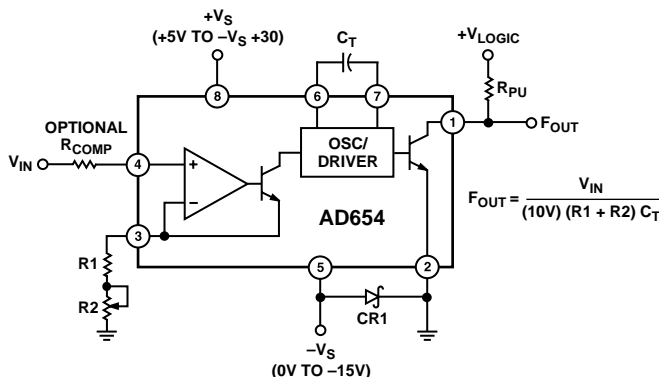
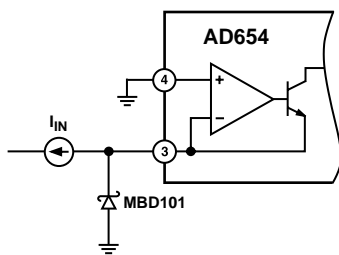

Figure 1. Standard V-F Connection for Positive Input Voltages
Figure 5. Input Protection
The AD654's block diagram appears in Figure 1. A versatile operational amplifier serves as the input stage; its purpose is to convert and scale the input voltage signal to a drive current in the NPN follower. Optimum performance is achieved when, at the full-scale input voltage, a 1 mA drive current is delivered to the current-to-frequency converter (an astable multivibrator). The drive current provides both the bias levels and the charging current to the externally connected timing capacitor. This "adaptive" bias scheme allows the oscillator to provide low nonlinearity over the entire current input range of 100 nA to 2 mA. The square wave oscillator output goes to the output driver which provides a floating base drive to the NPN power transistor. This floating drive allows the logic interface to be referenced to a level other than $-V_S$.
In the connection scheme of Figure 1, the input amplifier presents a very high (250 MΩ) impedance to the input voltage, which is converted into the proper drive current by the scaling resistors at Pin 3. Resistors R1 and R2 are selected to provide a 1 mA full-scale current with enough trim range to accommodate the AD654's 10% FS error and the components' tolerances. Full-scale currents other than 1 mA can be chosen, but linearity will be reduced; 2 mA is the maximum allowable drive. The AD654's positive input voltage range spans from $-V_S$ (ground in sink supply operation) to four volts below the positive supply. Power supply rejection degrades as the input exceeds $(+V_S - 3.75 \text{ V})$ and at $(+V_S - 3.5 \text{ V})$ the output frequency goes to zero.
As indicated by the scaling relationship in Figure 1, a 0.01 μF timing capacitor will give a 10 kHz full-scale frequency, and 0.001 μF will give 100 kHz with a 1 mA drive current. Good V/F linearity requires the use of a capacitor with low dielectric absorption (DA), while the most stable operation over temperature calls for a component having a small tempco. Polystyrene, polypropylene, or Teflon* capacitors are preferred for tempco and dielectric absorption; other types will degrade linearity. The capacitor should be wired very close to the AD654. In Figure 1, Schottky diode CR1 (MBD101) prevents logic common from dropping more than 500 mV below $-V_S$. This diode is not required if $-V_S$ is equal to logic common.
The AD654 was designed to be used with a minimum of additional hardware. However, the successful application of a precision IC involves a good understanding of possible pitfalls and the use of suitable precautions. Thus $+V_{IN}$ and R_T pins should not be driven more than 300 mV below $-V_S$. Likewise, Logic Common should not drop more than 500 mV below $-V_S$. This would cause internal junctions to conduct, possibly damaging the IC. In addition to the diode shown in Figures 1 and 2 protecting Logic Common, a second Schottky diode (MBD101) can protect the AD654's inputs from "below $-V_S$ " inputs as shown in Figure 5. It is also desirable not to drive $+V_{IN}$ and R_T above $+V_S$. In operation, the converter will exhibit a zero output for inputs above $(+V_S - 3.5 \text{ V})$. Also, control currents above 2 mA will increase nonlinearity.